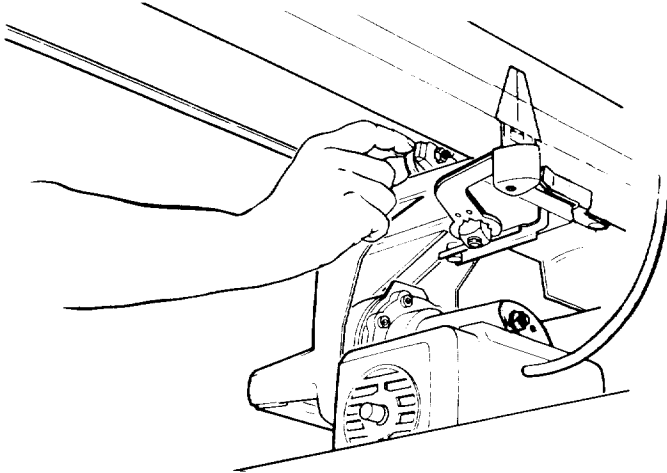

Fig. 128 - Front Carriage Bearings
3. Hold the *front carriage bearing* with your fingers as tight as possible and pull *carriage* forward at the same time. If you can prevent the *bearing* from turning an adjustment is required. (Figure 128)